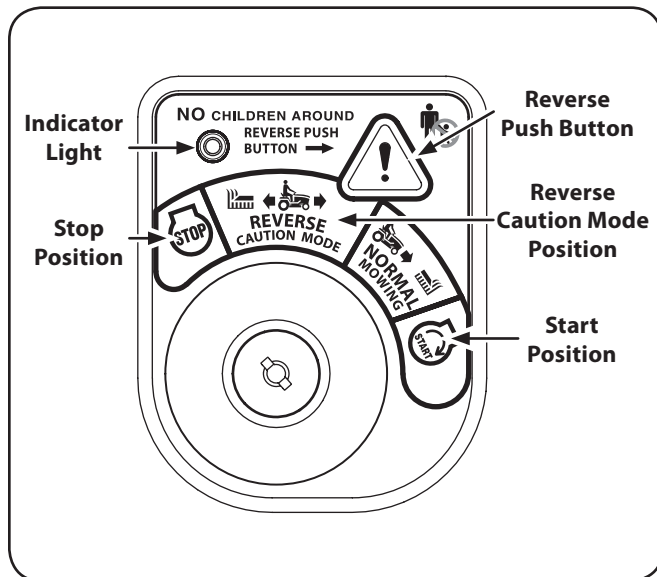

Figure 5-1
2. Turn the key from the NORMAL MOWING  (Green) position to the REVERSE CAUTION MODE  (Yellow) position of the key switch module. See Fig. 5-1.
3. Press the REVERSE PUSH BUTTON  at the top, right corner of the key switch module. The red indicator light at the top, left corner of the key switch module will be ON while activated. See Fig. 5-1.